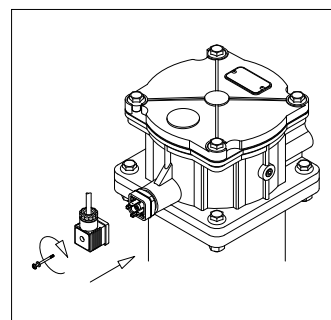

fig. 17
- (Fig. 17) Insert the connector by fastening the central screw (only for electrical indicators)